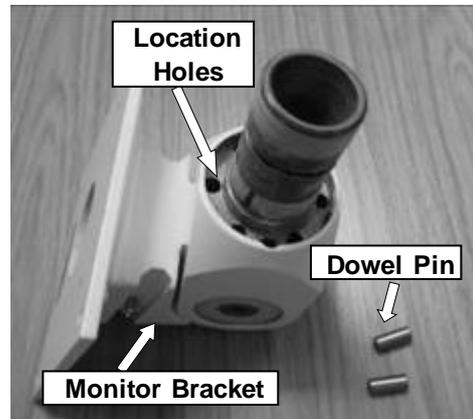

Figure 20
- The Dowel Pins can now be removed and arranged to suit the limit of rotation that is required by inserting pins into the various location holes. See Figure 20.